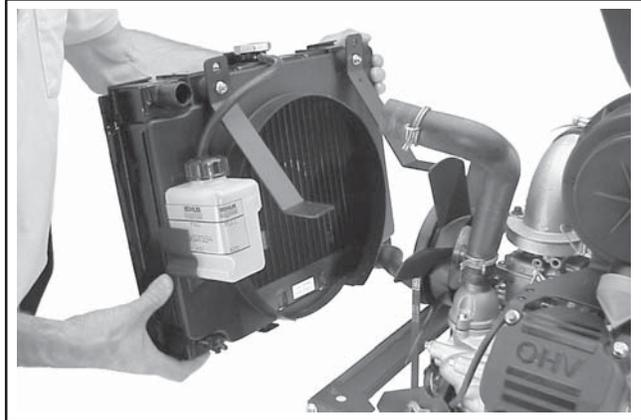

Figure 9-12. Removing the Radiator.
5. Carefully tilt (pull) the radiator forward slightly to clear the fan and lift the complete assembly out of the lower mounting bracket. See Figure 9-12.